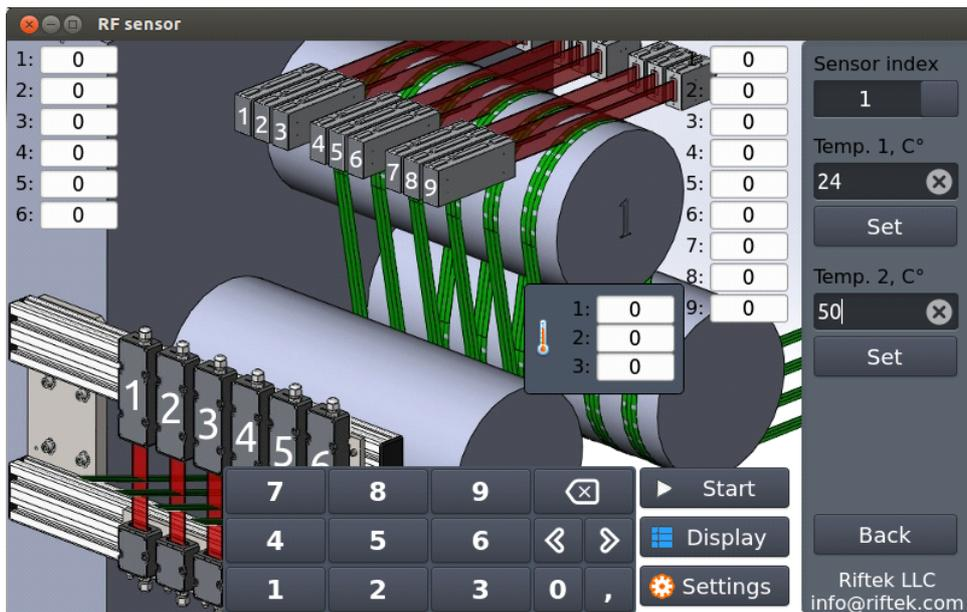

Figure 12
- Open the calibration menu **Settings > Calibration** (Fig. 12).